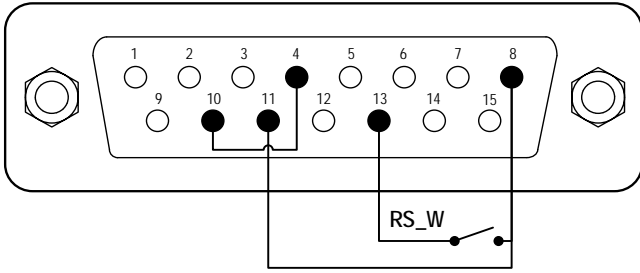
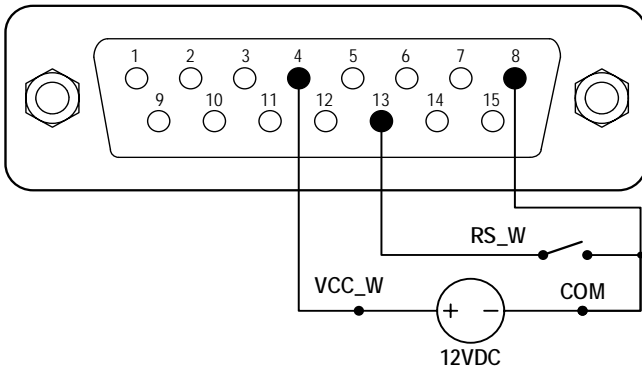

Figure 19. Footswitch with internal 12V Power Source
Figure 20. Footswitch with External 12V Power Source
- 1) Switch the power off. Wire the DB15 connector as shown in Figure 19 or Figure 20, and connect it to the DB15 port on the rear of the pump.